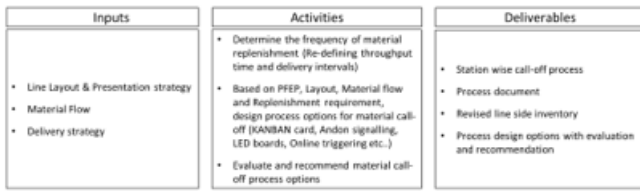

Figure 9: Material Cell-Off Process Design
- Storage space requirement calculation and Consolidated (combined) storage area design, along with the decision on Storage systems to be adopted, Figure 9. Material Cell-Off Process Design